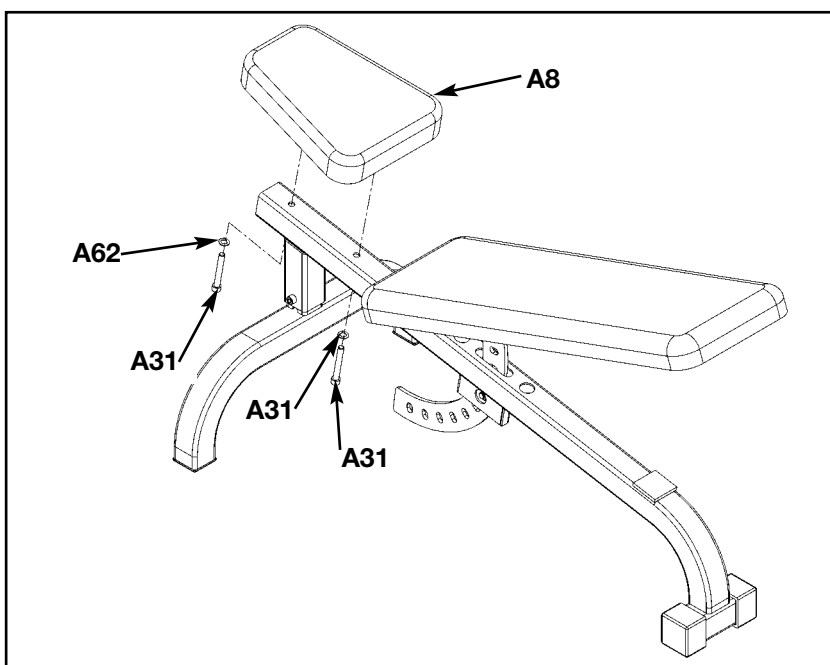

Figure 8
- M.** Install seat cushion to the bench using two SHCS .375-16 x 3.00 (#A31) and two internal tooth lockwashers (#A62) as shown in Figure 8.